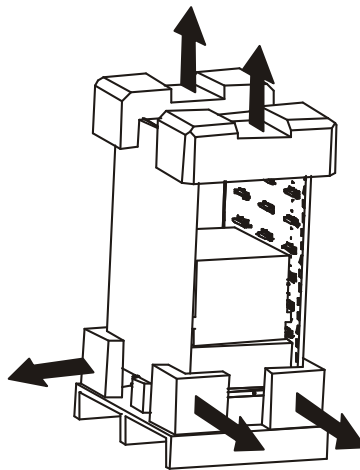

Fig.2
- 2) Remove the protective material (Refer to Fig.2);